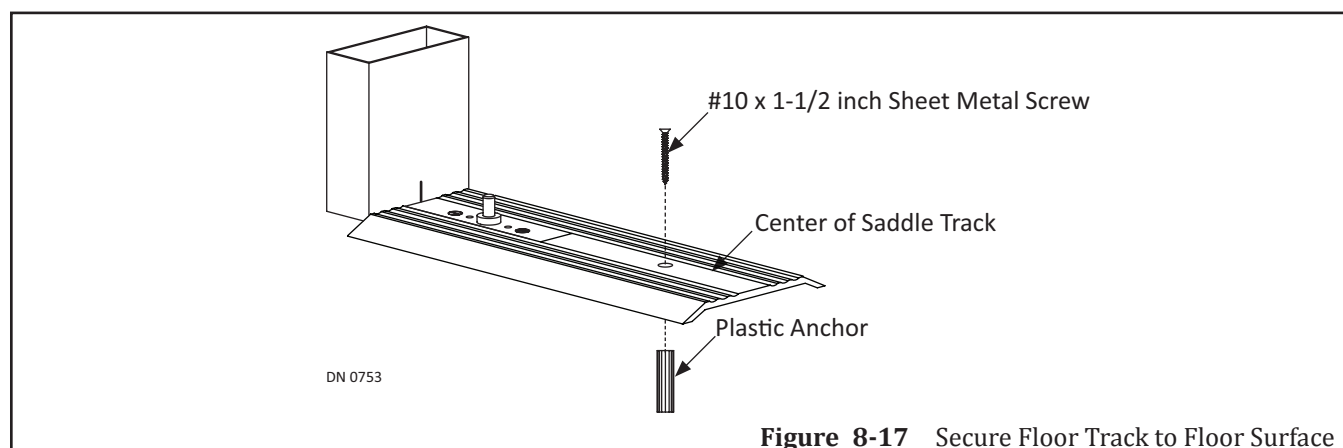

Figure 8-17 Secure Floor Track to Floor Surface
5. In the center of the Saddle Threshold, approximately 4 inches from the Strike Jamb, mark (1) screw hole.
9. Insert #14 x 1" plastic anchors into the drilled screw holes. Please see Figure 8-17.